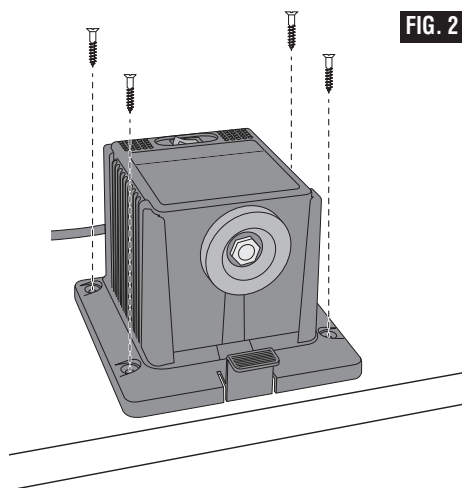

FIG. 2
To mount the motor unit, fasten it to a wooden structure with four(4) wood screws or two(2) clamps (Fig. 2).